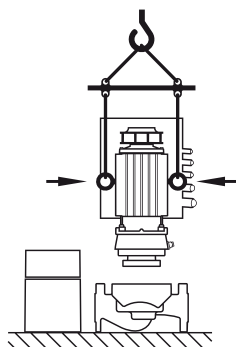

Fig. 23: Transport of the motor impeller unit
- If the transport eyes have been moved from the motor flange and installed at the motor housing, then they are only approved for carrying or transporting the motor impeller unit (Fig. 23) and not for transport of the whole pump and not for separation of the motor impeller unit from the pump housing (pay attention to the previous dismantling and subsequent installation of the spacer).